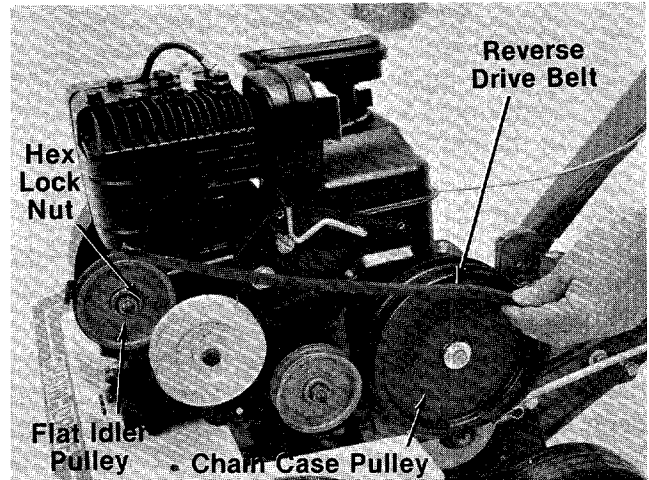
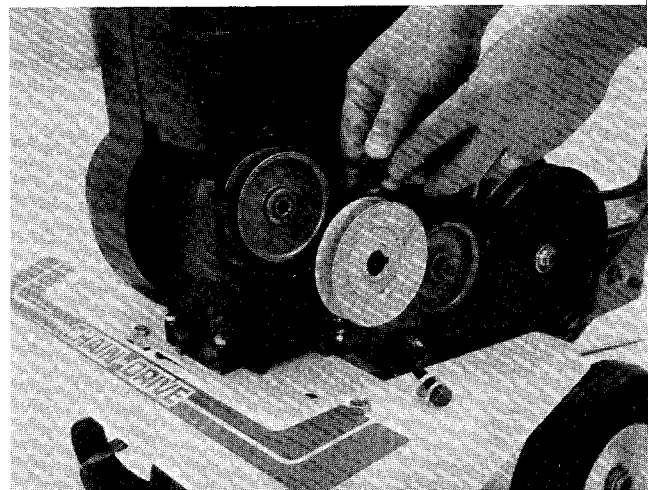

FIGURE 25.
FIGURE 26.
2. With the shift lever in neutral (N) position, slip the reverse drive belt off the chain case pulley and "V"-Groove of engine pulley. See figure 25.
3. Place the shift lever in reverse (R) position. Remove hex lock nut holding the flat reverse idler pulley. See figure 25. Pull the idler bracket forward with one hand. Slip off flat idler and belt together. See figure 26.